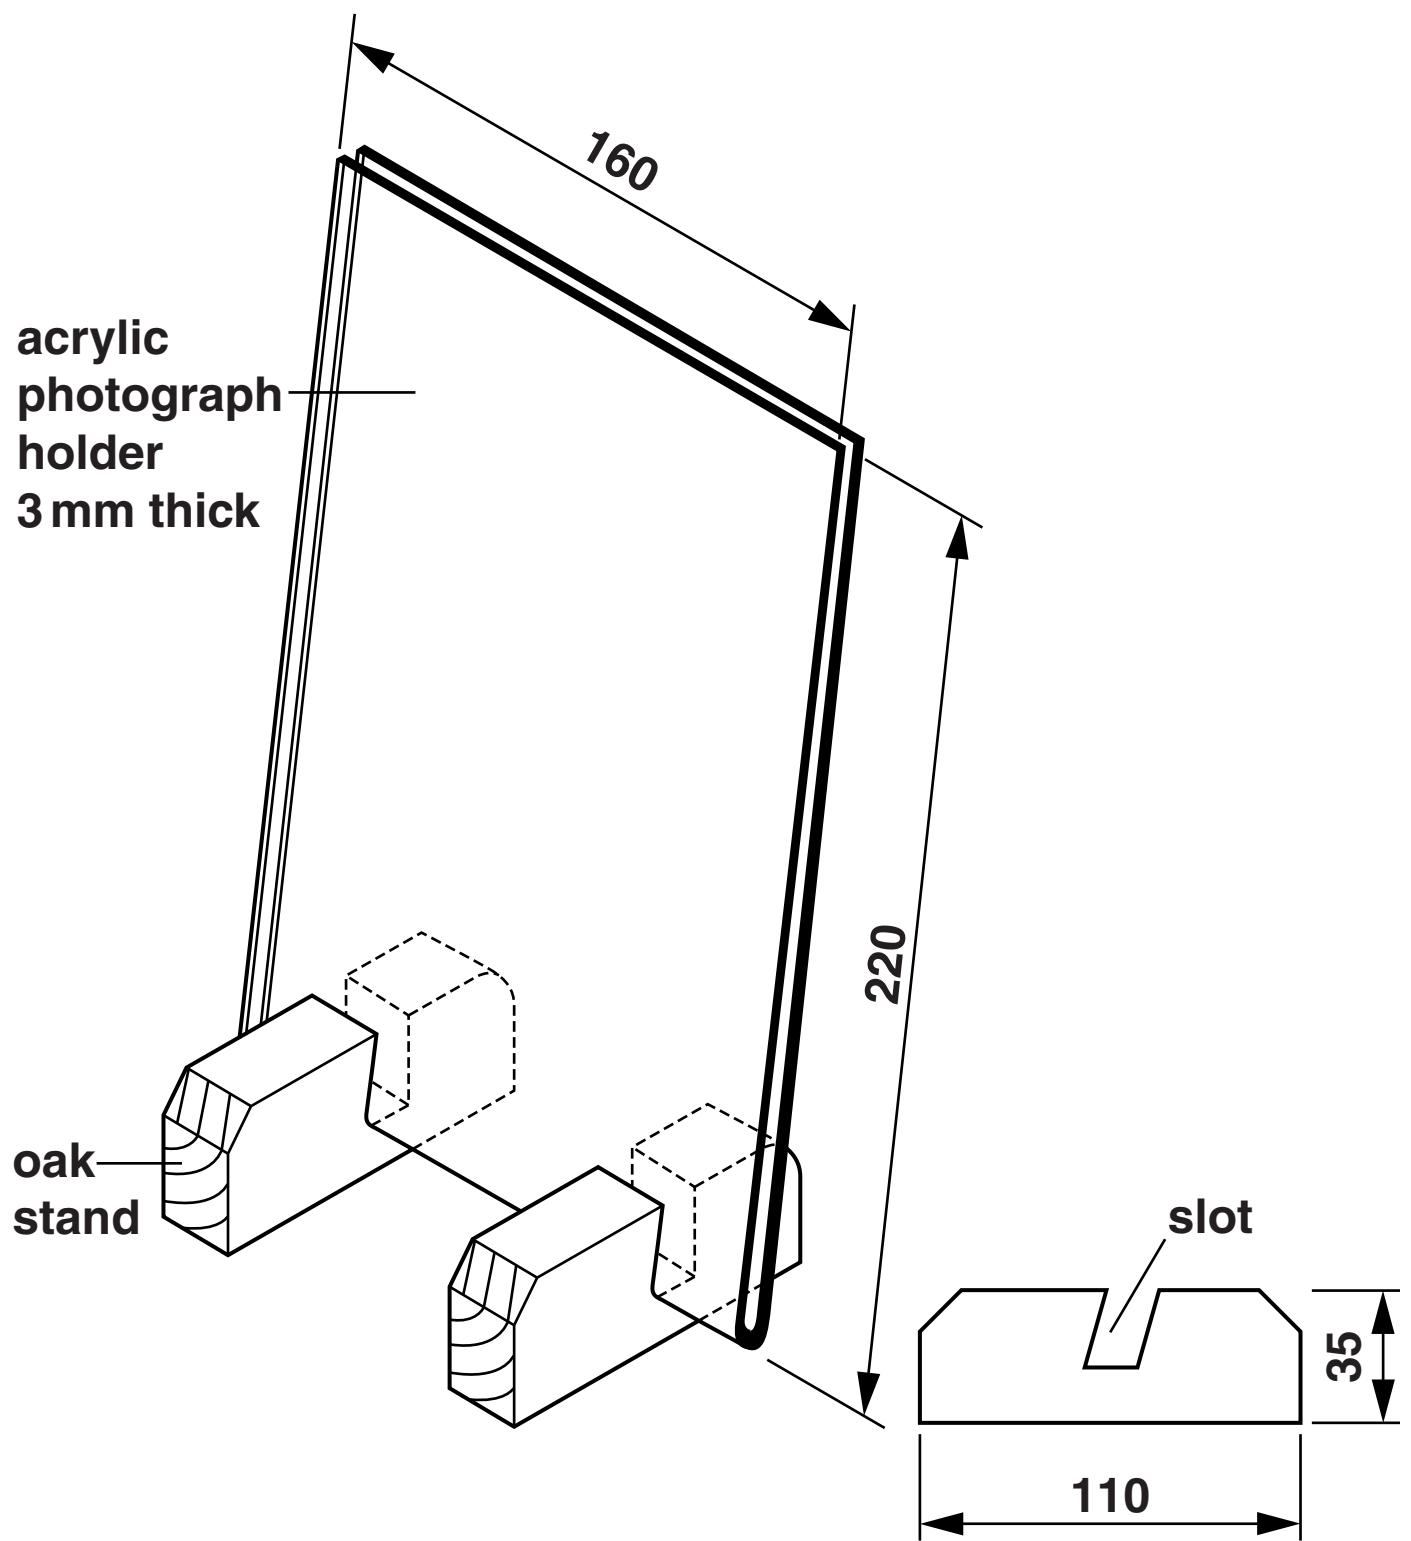

Fig. 1
- 1 Fig. 1 opposite shows views of a photograph holder and stand.**